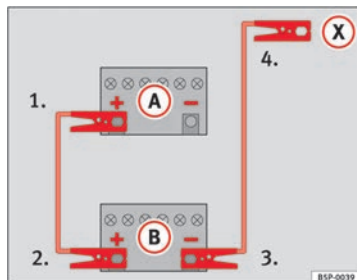

Fig. 196 Diagram of connections for vehicles without Start-Stop system
- Connect one end of the *red* jump lead to the positive \oplus terminal of the vehicle with the flat battery $\textcircled{A} \Rightarrow$ Fig. 196.
- Connect one end of the *black* jump lead to the negative terminal \ominus of the vehicle providing assistance $\textcircled{B} \Rightarrow$ Fig. 196.